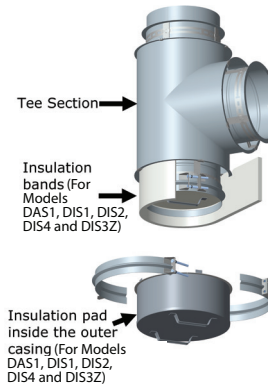

Figure 33c: Tee Cap insulated casing Step 3 and 4
- 4 - Wrap the insulation band around the inner wall of the Tee, up to the spacer/brackets inside the Tee. See **Figure 33c**.